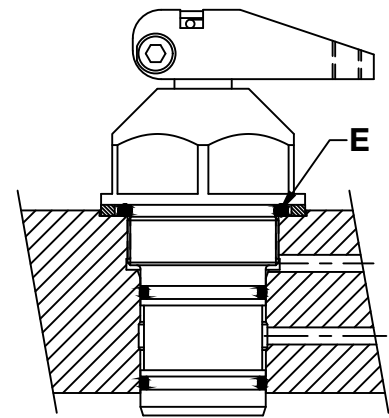

Figure 8
Lubricate external cylinder o-rings prior to mounting the cylinder in the cavity. Carefully install the cylinder until the metal ring (E) contacts the counterbore face as shown in Figure 8. Torque cylinder body into mounting plate using the upper hex portion of the cylinder, not the clamp arm. See the table below for torque values.